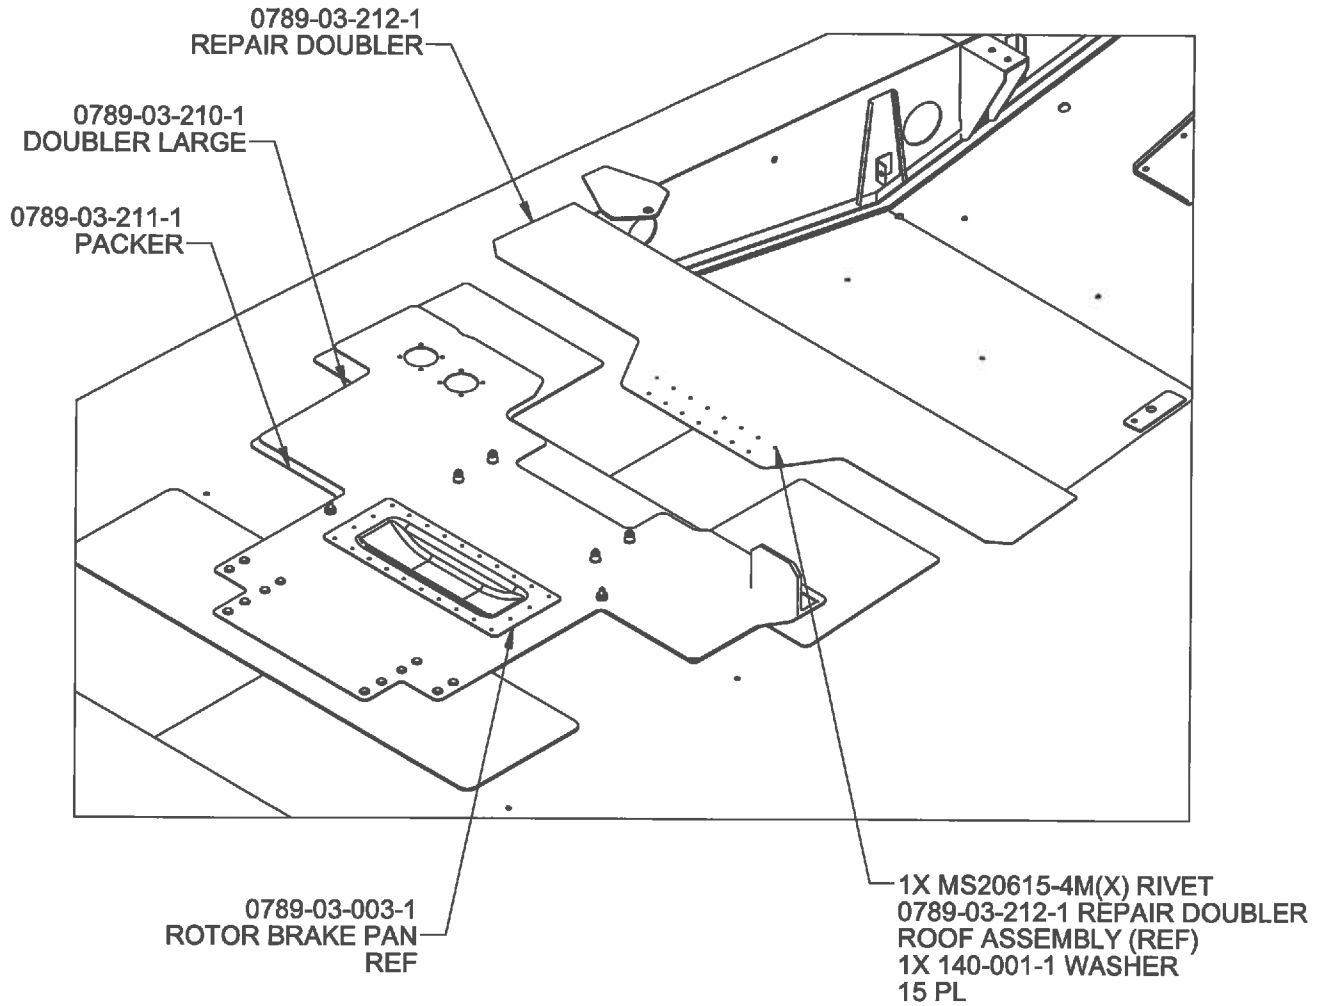

Figure 2 - Doubler Installation
6. Transfer drill the 0789-03-212-1 Repair Doubler from the cabin roof in place of 407-030-401-177 Skin. Transfer drill to the roof assembly from the 0789-03-212-1 Repair Doubler to the cabin roof using the FWD two rows of holes on the 0789-03-212-1 Repair Doubler per Figure 2. Take care not to damage underlying structures during drilling operation. Do not drill through inner skin except outside core area.
8. Install 0789-03-212-1 Repair Doubler in place of the Bell 407-030-401-177 Skin. Install the FWD two rows of holes on the 0789-03-212-1 Repair Doubler using MS20615-4M(X) Rivets and 140-001-1 Washers on the under side of the roof assembly per Figure 2.